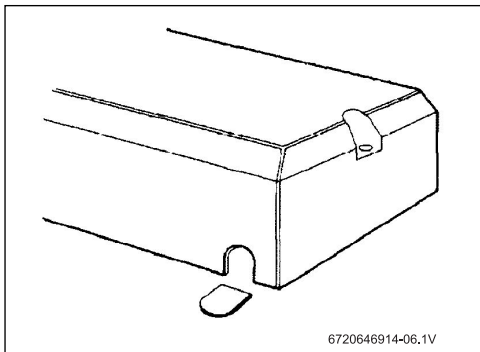

Fig. 5 Unit cover
- If it is going to be through the cover bottom, cut out the plastic lug to expose the rubber sleeve (Fig. 5 ):